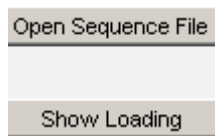

Figure 10-12 Two Settings in Program Mode
The report result contains settings and readings. The settings include: Mode, Setting (A/R/W), Cut Off (V) and Time Out (S). The readings include: Time Count, Capacity (mAH). See Figure 10-12 for the example.